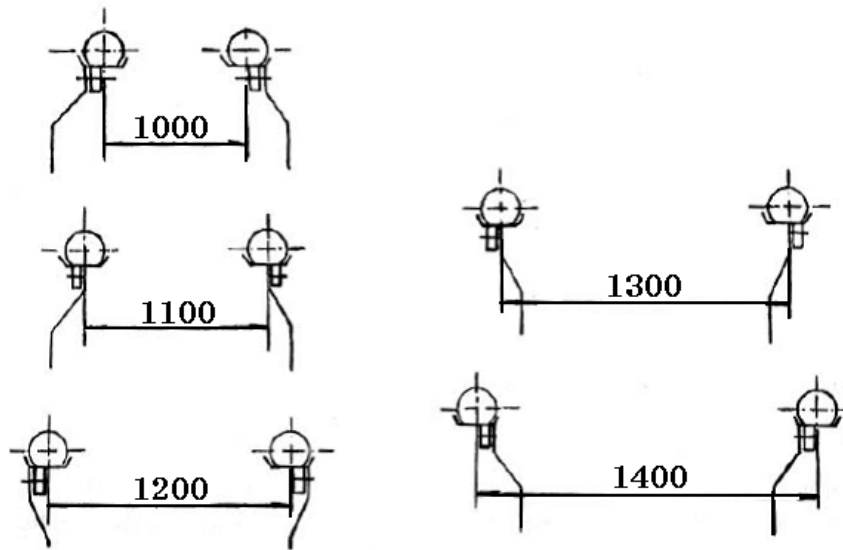

Fig. 5-10 Tread adjustment of the driving wheel
- (1) The distance between the front wheels can be adjusted to have 4 different lengths by means of the telescopic tubes within the range of 1100~1400 mm.
- (2) For the driving wheels, the tread may be changed by the wheel spokes and the wheel **rim**s. This makes it possible to have 5 different lengths of the tread within the range of 1000~1400 mm. Please see Fig. 5-10